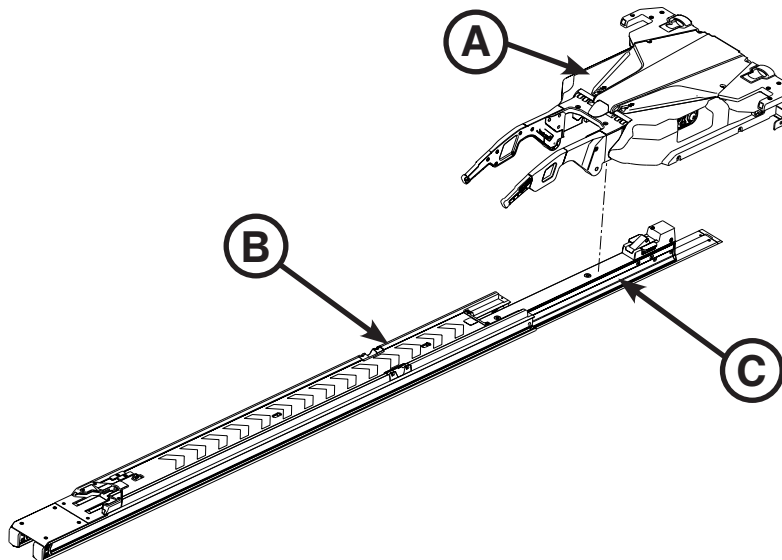

Figure 22: Position the Trolley Assembly
10. Position the trolley assembly (A) between the transfer assembly (B) and head end of the anchor assembly (C) on the floor as shown in Figure 22.